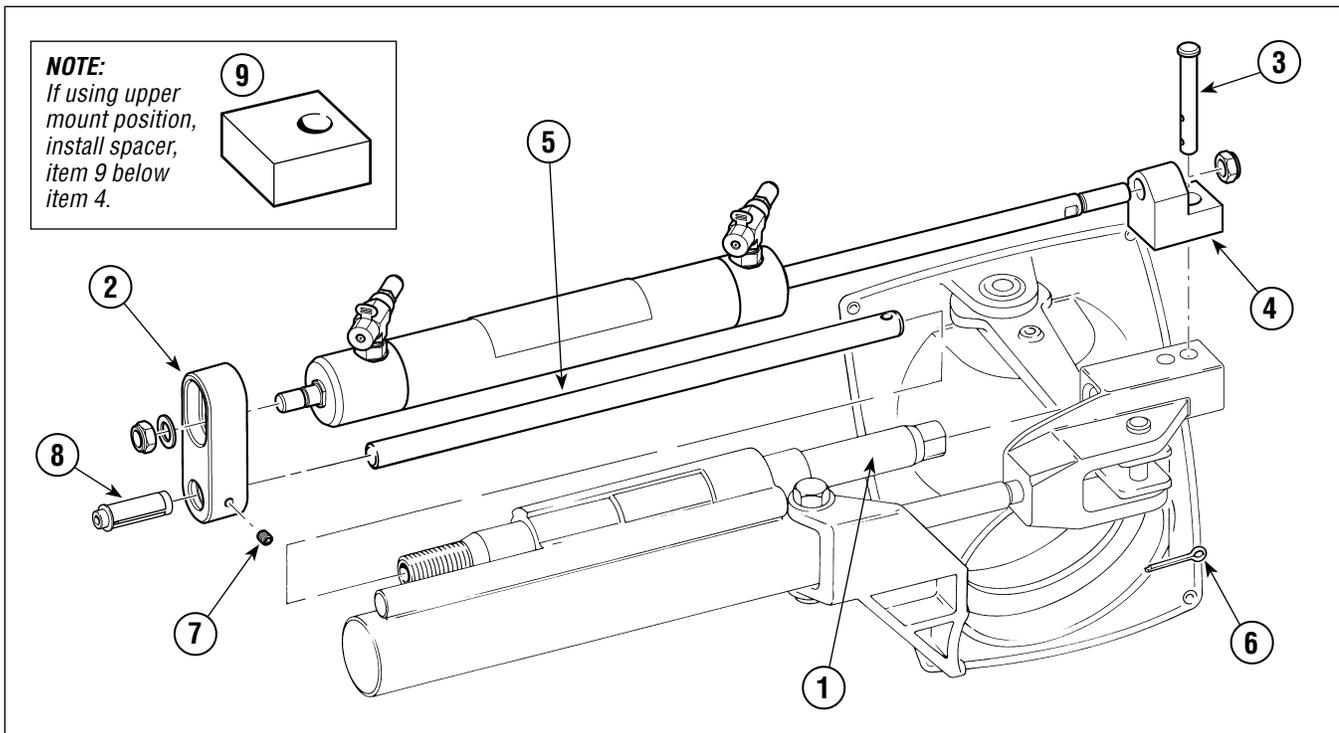

Figure 15. HC5331-3 (92-VPS), **NOT for use with SeaStar PRO helm(s).**
Referring to Figure 15 please observe the following:
Cut Clevis Pin, (item 3 Figure 15) to a length of 2" when mounting cylinder in lower position.